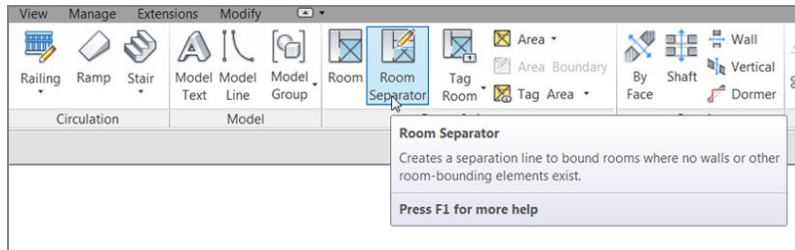

FIGURE 15.21: Click the Room Separator button on the Room & Area panel of the Architecture tab.
4. On the Room & Area panel of the Architecture tab, choose Room > Room Separator, as shown in Figure 15.21.